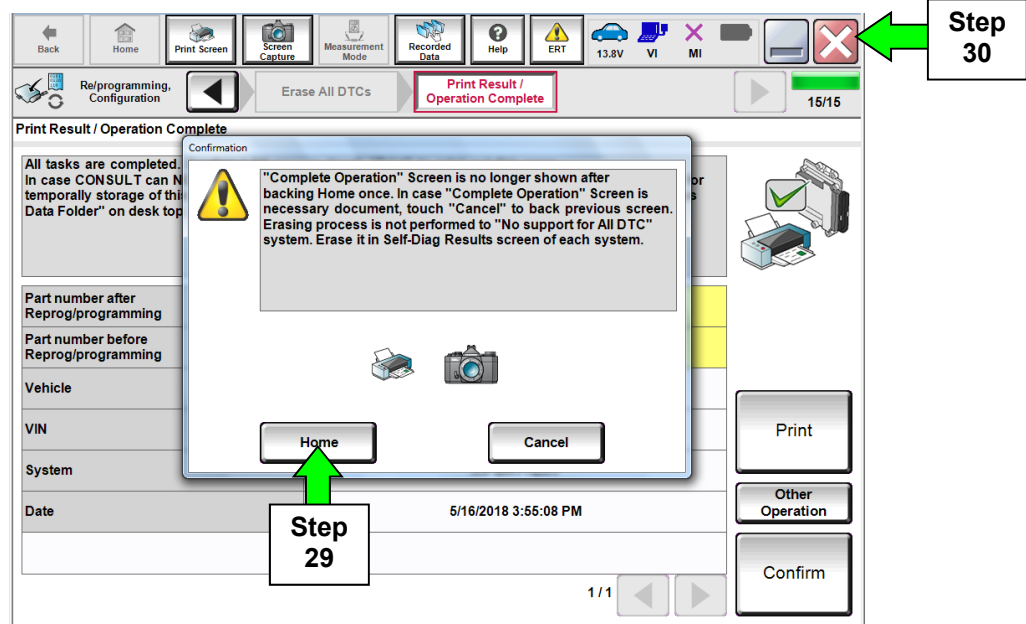

Figure 27
30. Close C-III plus by selecting “X” in Figure 27.